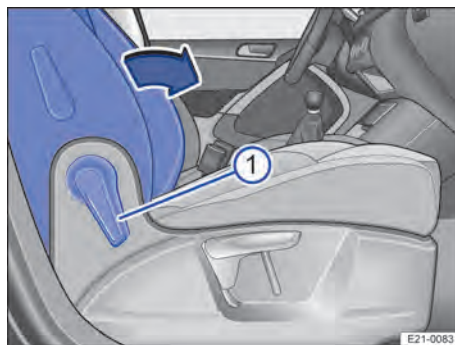

Fig. 66 Front passenger seat: folding the backrest forwards.
5. Pull the lever → Fig. 66 ① forwards to unlock the front passenger seat backrest.
6. Fold the front passenger seat backrest forwards in the direction of the arrow → Fig. 66 until it is horizontal.